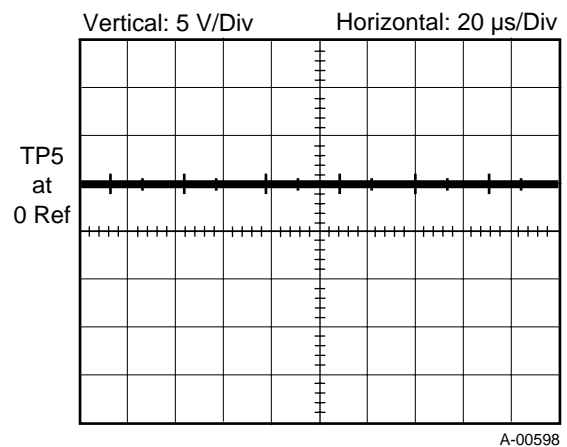

Figure 4-13 Hall CT Offset at TP5
- e. If the voltage is not correct, adjust VR2 until the voltage is zero (refer to Figure 4-13)